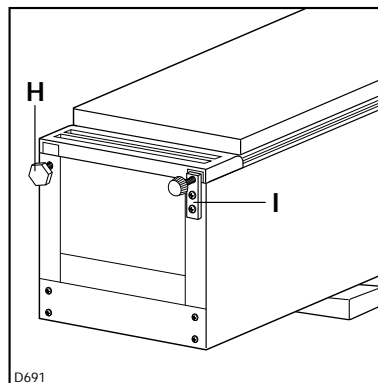

Fig. 3
Remove the screws of the bracket with foot (I) and levelling foot (H) and reassemble them on the opposite side (Fig. 3).